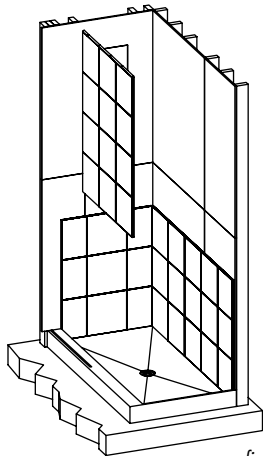

figure 21
6. Continue to dry fit the top panels starting with panel 1T (fig. 21). Place the top panel above the bottom panel and match the space between the panels with the rest of the grout lines on the panel, use spacers if necessary. Finish the other panels as well in the following order: 2T, 3T, 4T.